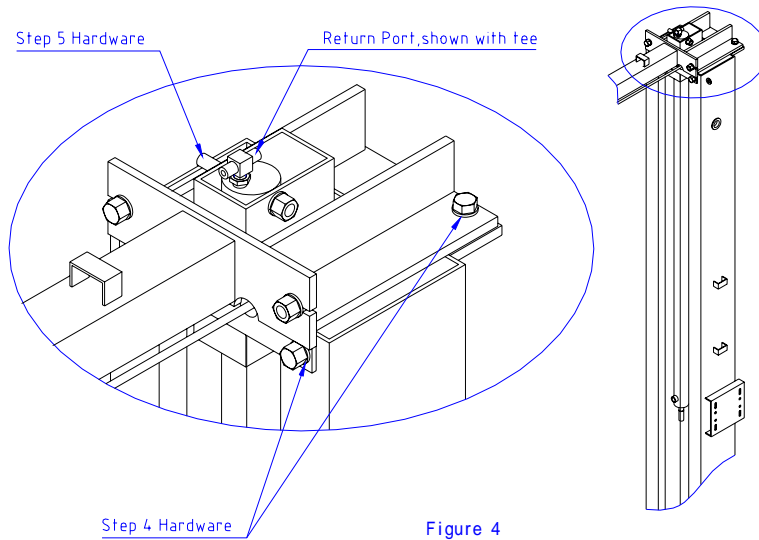

Figure 4
4. Attach the cylinder mount or uprights. Attach the cylinder mounts or uprights to the legs using four 1/2" X 1-3/4" bolts, washers and nuts as shown in figure 4.
- D. Install the cylinders to the uprights or cylinder mounts with **1/2" x 4-1/2" Grade 8 bolts, cylinder bushings (spacers), washers, and nyloc nuts, figure 4**. The port near the rod end of the cylinders should be positioned pointing to the leg's open side. High Rise cylinders must be attached to the alternate hole near the top of the upright.